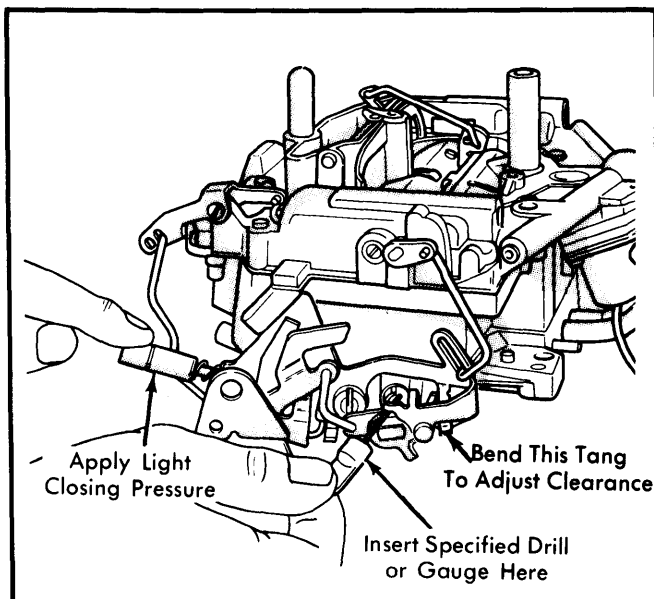

Fig. 11 Adjusting Secondary Throttle Lockout
1) Move fast idle control lever to wide open choke position. Measure specified clearance between lockout lever and stop. Clearance can be checked using a specified drill or pin gauge. See Fig. 11.